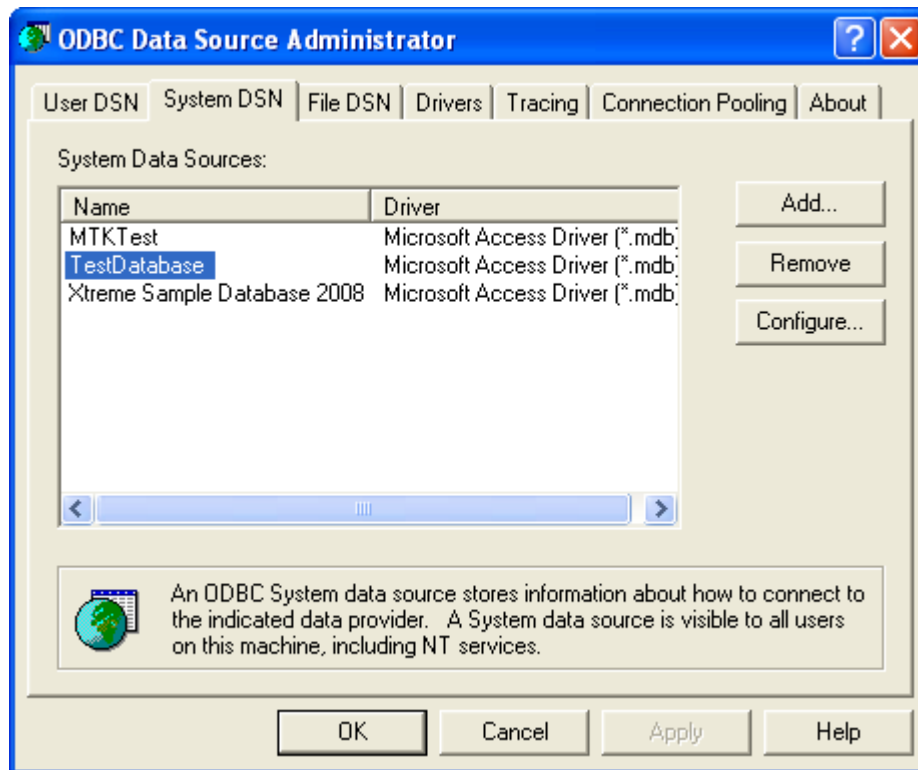

Figure 98 - List of System DSNs
16. **TestDatabase** should now appear in the list of system DSNs (Figure 98) that you see in the **ODBC Data Source Administrator** window.